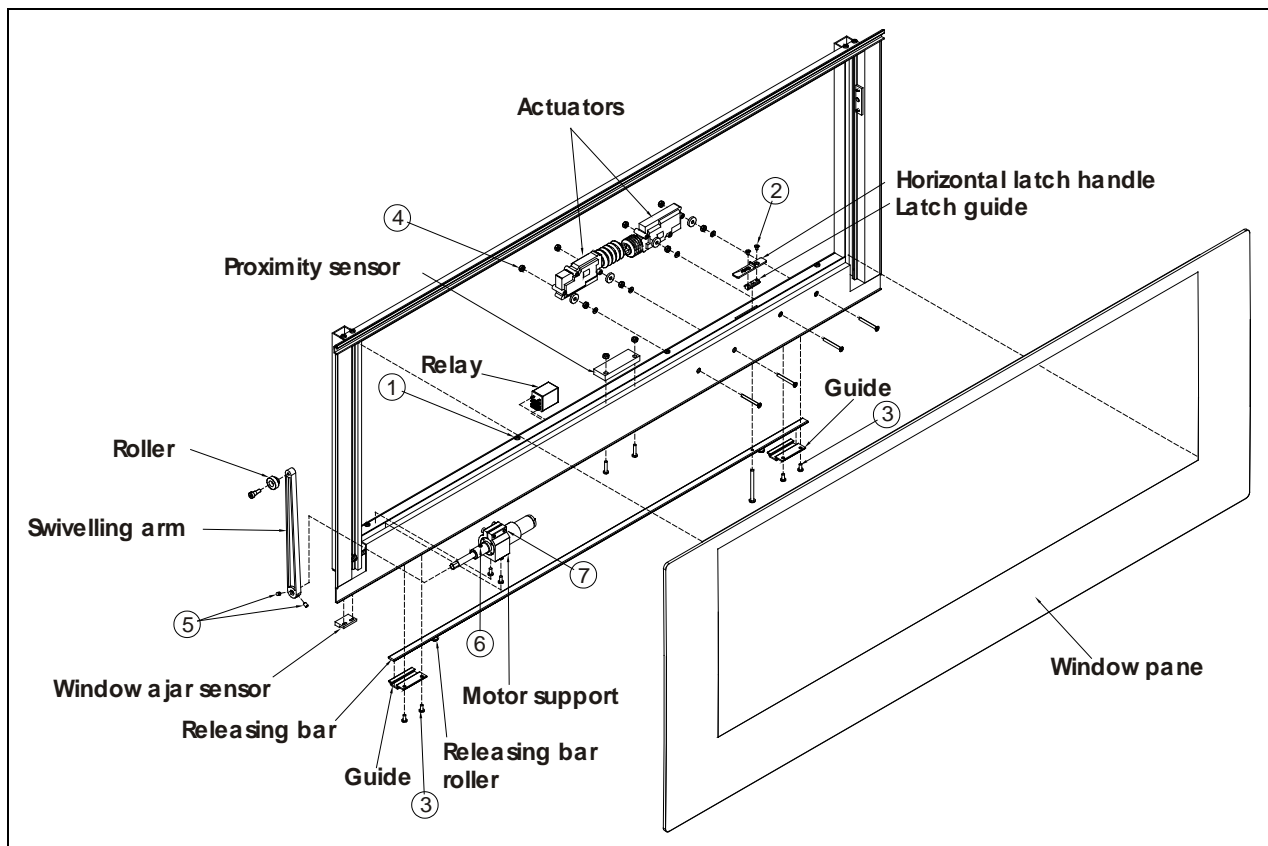

FIGURE 39: ELECTRIC AWNING WINDOW EXPLODED VIEW (SASH)
4. Loosen the set screws #5 (Figure 39) (rotate the arm to get to the second set screw) and disengage the swiveling arm from the motor shaft extension.